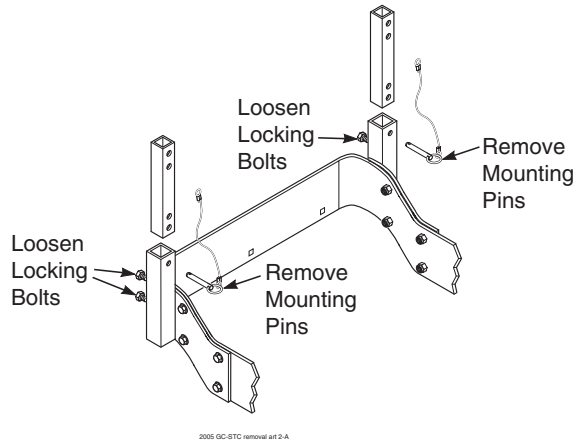

FIGURE 4-2
4. Loosen the locking bolts and remove the two (2) pins holding the hood assembly to the mounting posts on the rear of the machine. See Figure 4-2.